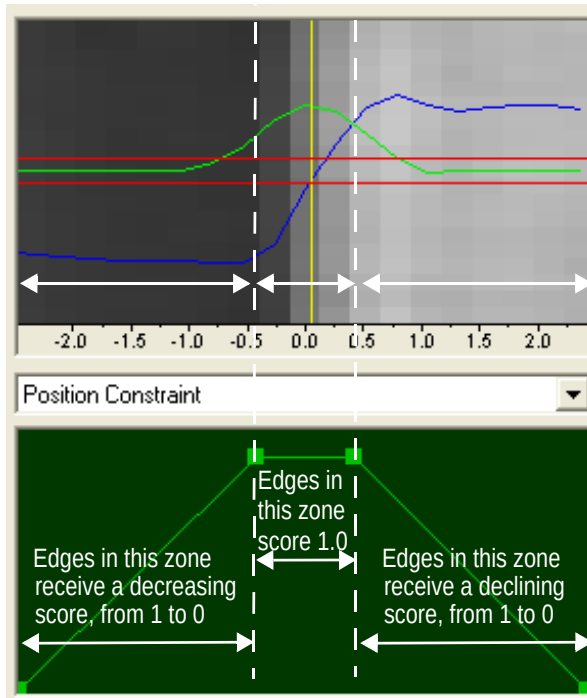

Figure 42 Position Constraint Histogram
2. Use the mouse to drag the handles in the histogram editor of the selected constraint. Set the Edge Position Constraint histogram as illustrated in Figure 42.